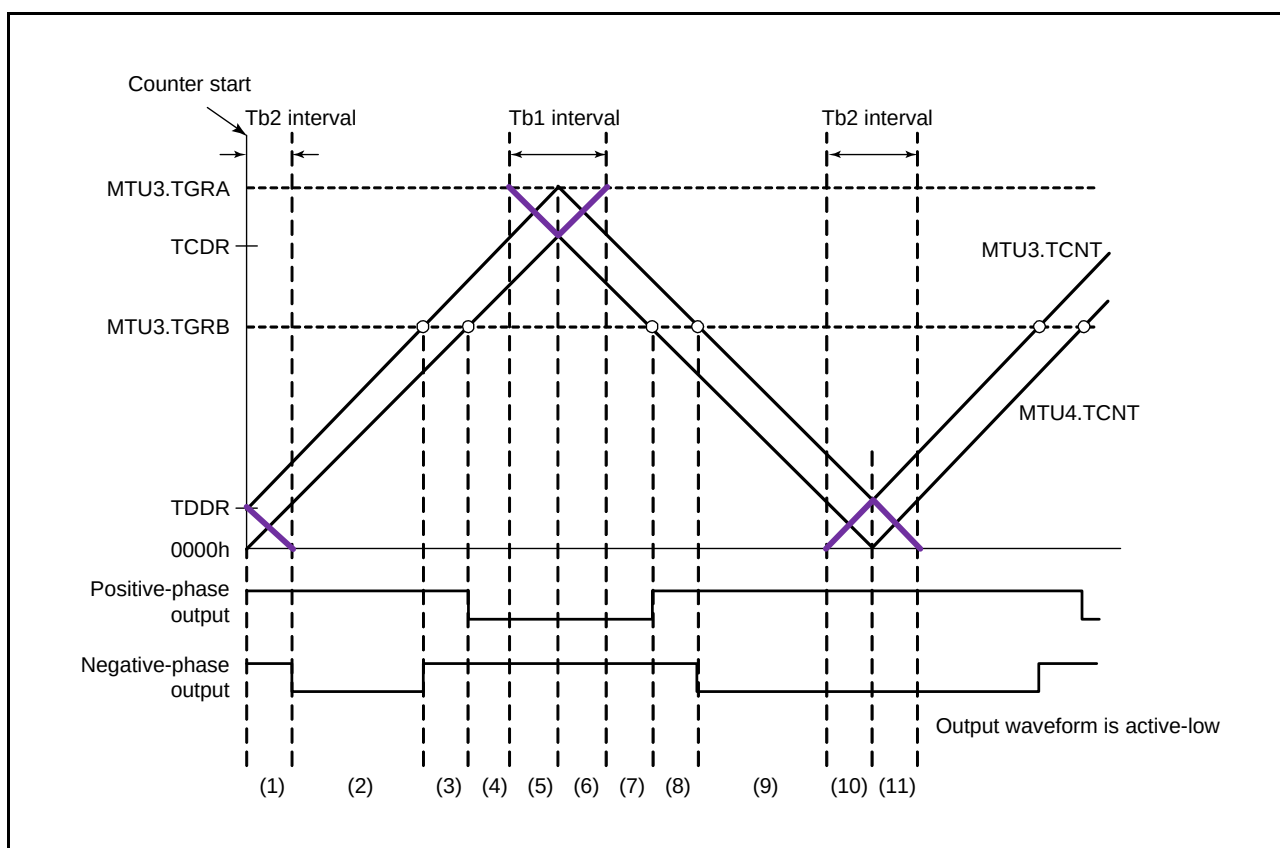
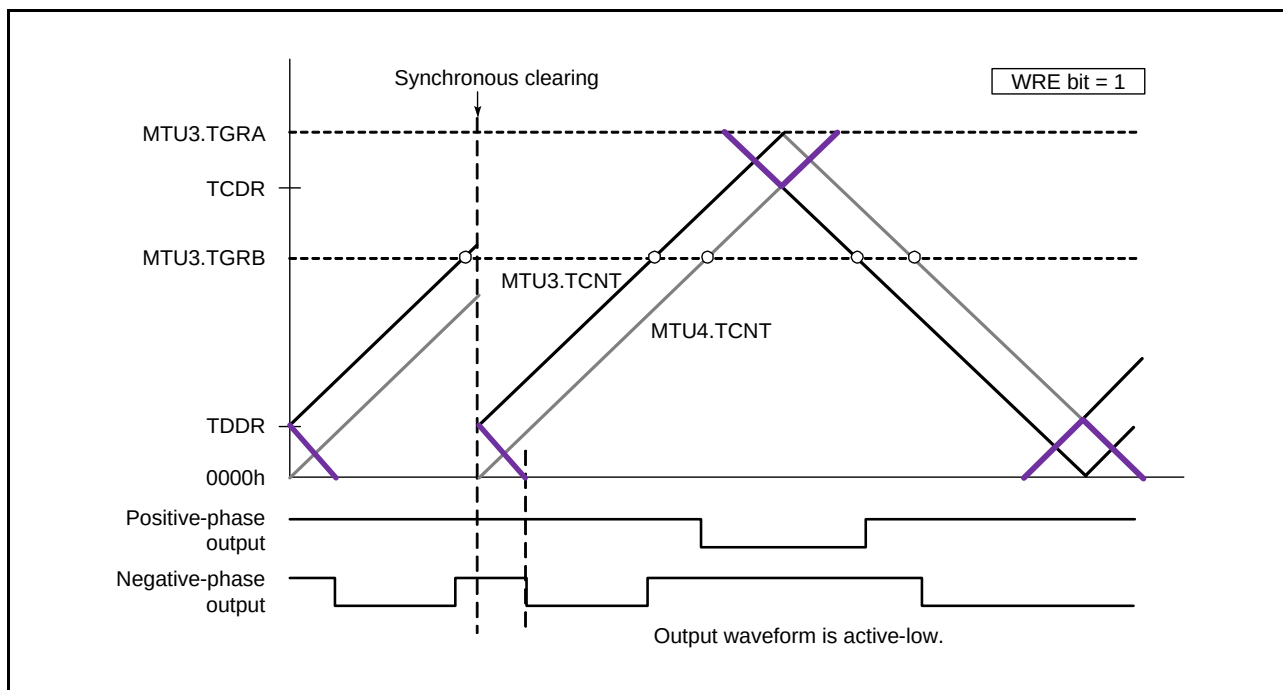
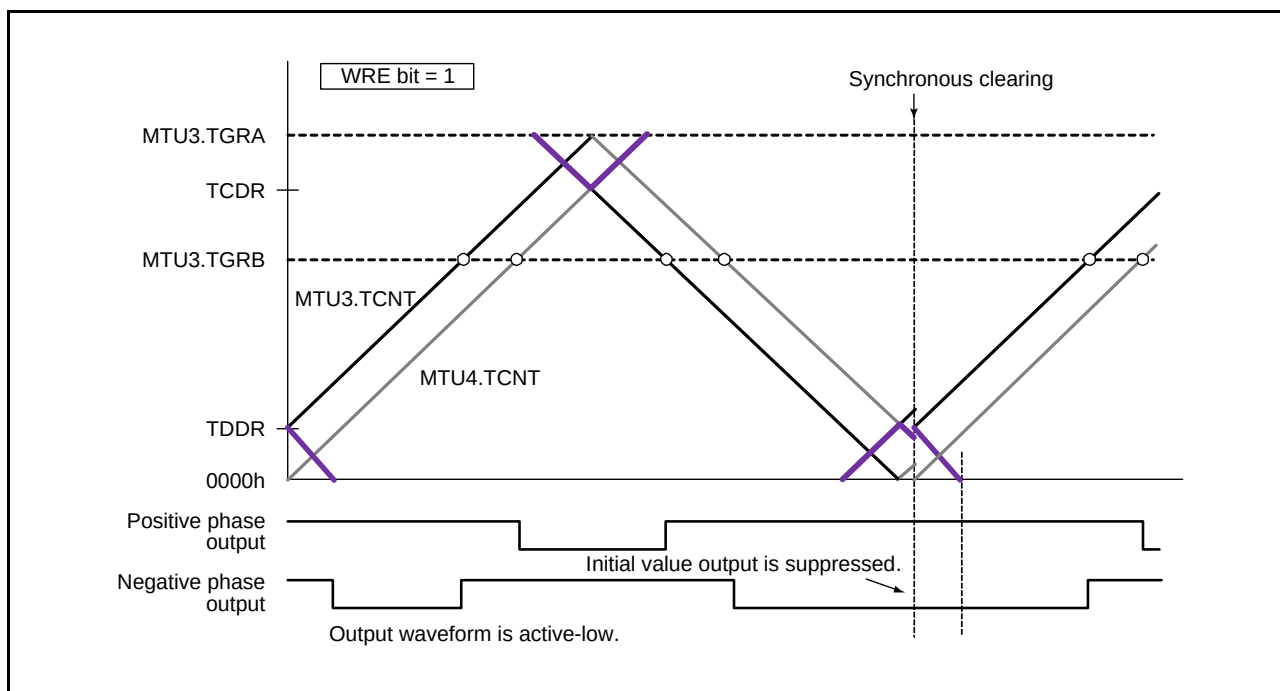

Figure 23.56 Timing for Synchronous Counter Clearing
Figure 23.58 Example of Synchronous Clearing in Dead Time during Up-Counting
Figure 23.61 Example of Synchronous Clearing in Interval Tb at Trough
Initial output suppression through setting the TWCR.WRE bit to 1 is applicable only when synchronous clearing occurs in the Tb2 interval as indicated by (10) or (11) in Figure 23.56. When synchronous clearing occurs outside that interval, the initial value specified by the TOCR1.OLSN bit and TOCR1.OLSP bit is output. Even in the Tb2 interval, if synchronous clearing occurs in the initial output period (indicated by (1) in Figure 23.56) immediately after the counters start operation, initial value output is not suppressed.
Figure 23.58 to Figure 23.61 show examples of output waveform control in which the MTU operates in complementary PWM mode and synchronous counter clearing is generated while the TWCR.WRE bit is set to 1. In the examples shown in Figure 23.58 to Figure 23.61, synchronous counter clearing occurs at timing (3), (6), (8), and (11) shown in Figure 23.56, respectively.
(Timing (3) in Figure 23.56; TWCR.WRE Bit is 1)
(Timing (6) in Figure 23.56; TWCR.WRE Bit is 1)
(Timing (8) in Figure 23.56; TWCR.WRE Bit is 1)
(Timing (11) in Figure 23.56; TWCR.WRE Bit is 1)